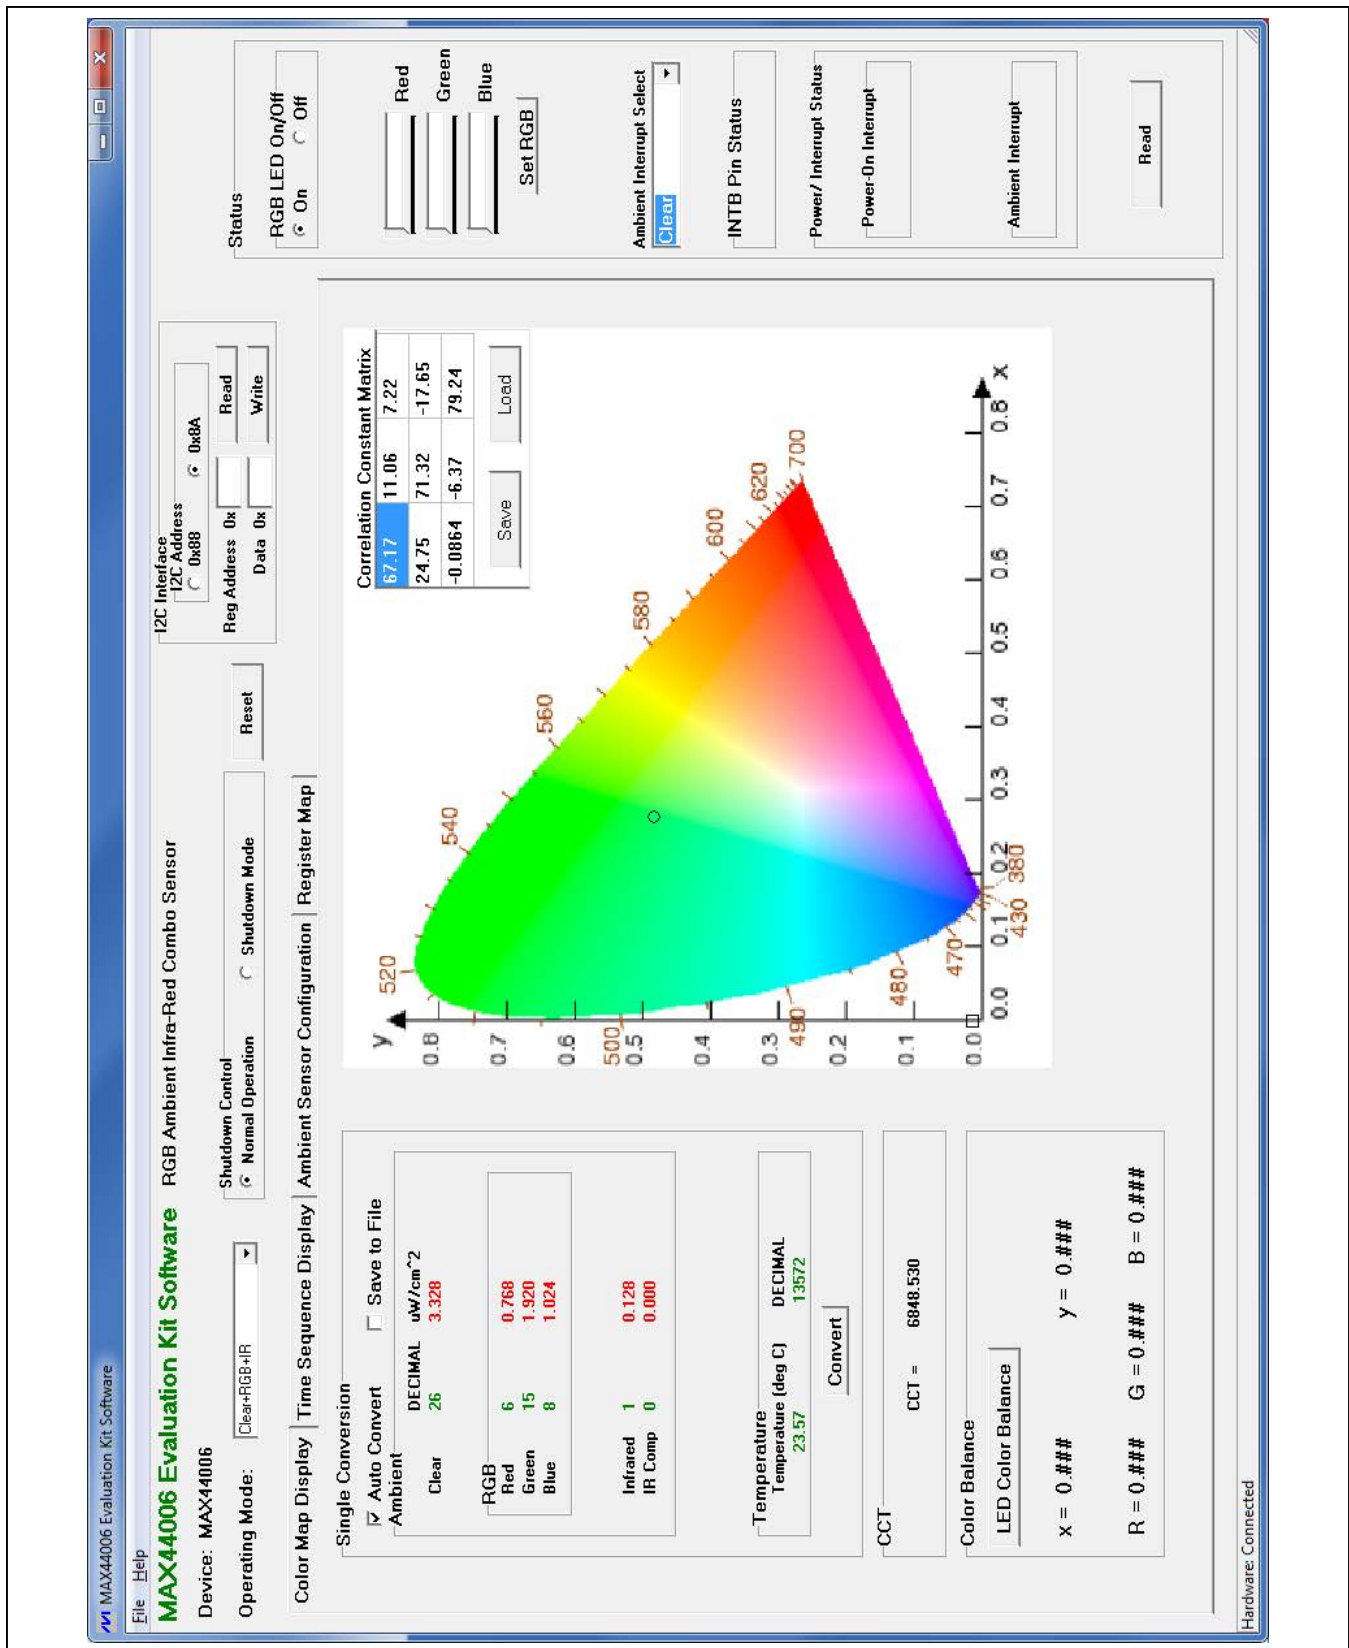

Figure 1. MAX44006 EV Kit Software Main Window (Color Map Display Tab)
- 5) Start the EV kit software by opening its icon in the **Start | Programs** menu. The EV system software main window appears, as shown in Figure 1.
The MAX44006 EV kit software (Figure 1) contains an **I2C Interface** group box, a **Status** group box, and four tab sheets (**Color Map Display**, **Time Sequence Display**, **Ambient Sensor Configuration**, and **Register Map**) to configure the MAX44006 IC and display the ADC data received from the IC.